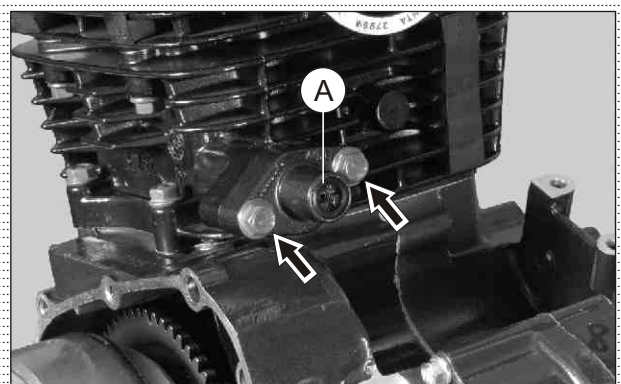

Fig. 3.69
- Take out 'O' ring (A). (Fig. 3.69)
- Remove hexagonal screws (M6x20 - 2 nos) from the adjuster assembly tensioner mounting and take out adjuster along with the gasket. (Fig. 3.69)